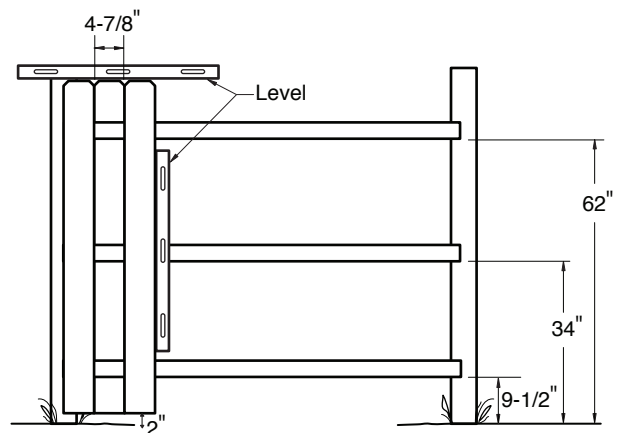

fig. 6
- **To build a Shadowbox fence** – Start at the end of the rail and alternate pickets on both sides of the fence. A recommended spacing between moulded pickets is 4-7/8". Use a level to check for plumb every few pickets (fig. 6).